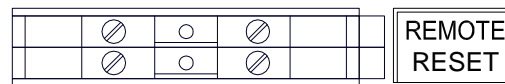
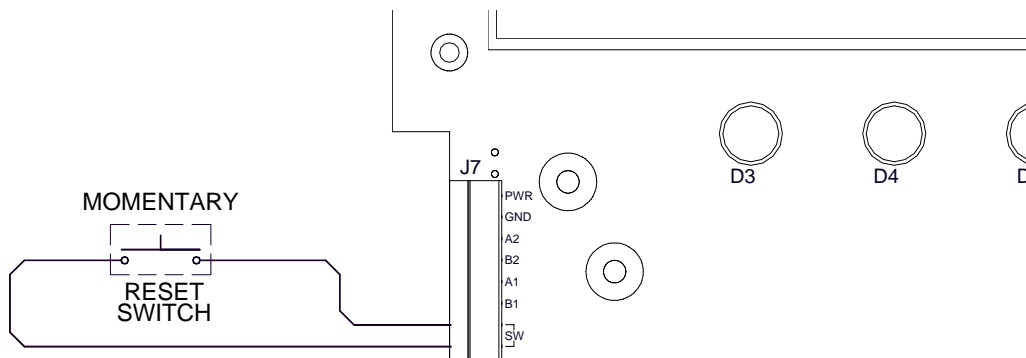

Figure 39 N1P & N4X Remote Switch Input
Figure 40 N7 Remote Switch Input
- b. Connect the Remote Alarm Reset/Acknowledge switch to the terminals of the terminal block labeled "REMOTE RESET" for the N1P and N4X controllers (Figure 39). For the N7 controller, connect the switch to the terminals "SW" on connector J7 (Figure 40). Once installed, pushing the switch will execute the reset/acknowledge function.